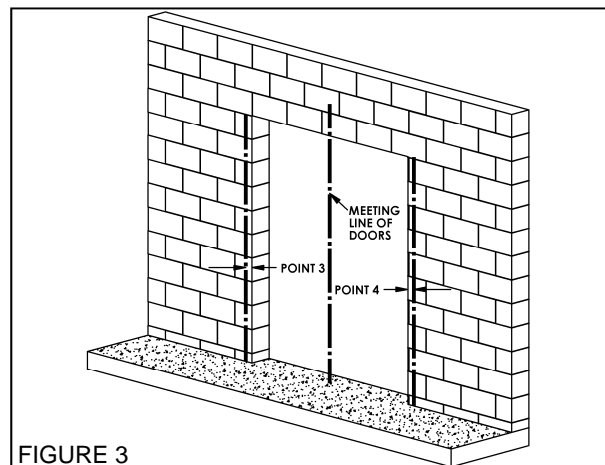

FIGURE 3
- From the shop drawing, determine Jamb Lap Distance [the distance between the center of the opening and the outside edge of the *Trail Jamb Channels* Figure 3, Point 3 and 4].
- Mark this distance on the jamb or frame extension member. This mark will be used to locate the *Trail Jamb Channels (A)* in a later installation step.